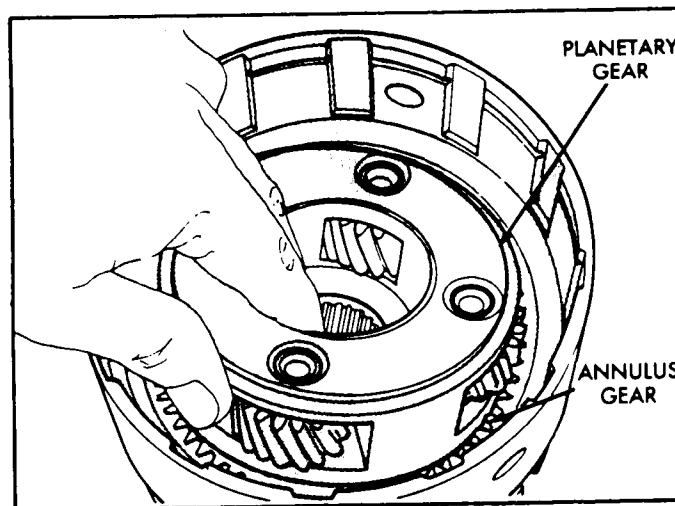

Figure 9
12. Install the overdrive carrier into the ring gear, as shown in Figure 9.